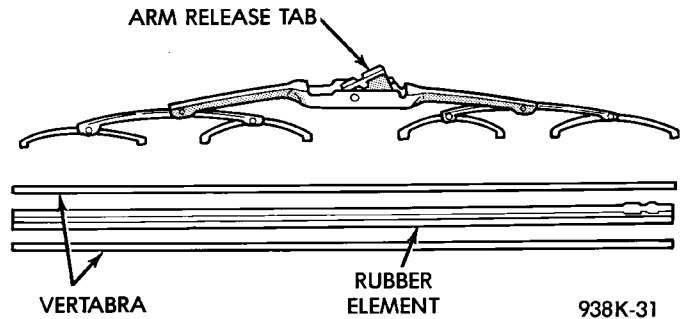
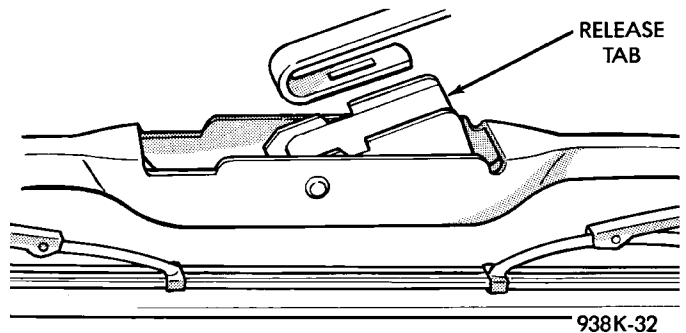

Fig. 6 Wiper Blade and Element
Fig. 7 Remove Blade from Arm
- Remove blade assembly from arm by pushing release tab under arm tip and slide blade away from arm tip (Fig. 6) and (Fig. 7).
- Remove blade assembly from arm by pushing release tab under arm tip and slide blade away from arm tip (Fig. 6) and (Fig. 7). Gently place wiper arm tip on glass surface.